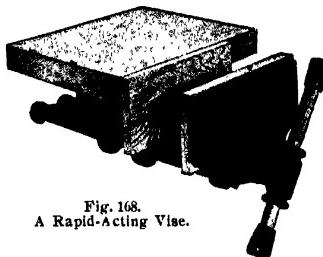

Fig. 168.
Vises for holding wood are of three general styles, (1) those with an upright wooden jaw, Fig. 167, which holds wide pieces of work well. They are now made with an automatic adjusting device by which the jaw and the face of the bench are kept parallel; (2) wooden vises with a horizontal jaw, guided by parallel runners, Fig. 166, and, (3) metal rapid-acting vises, Fig. 168. The latter are the most durable and in